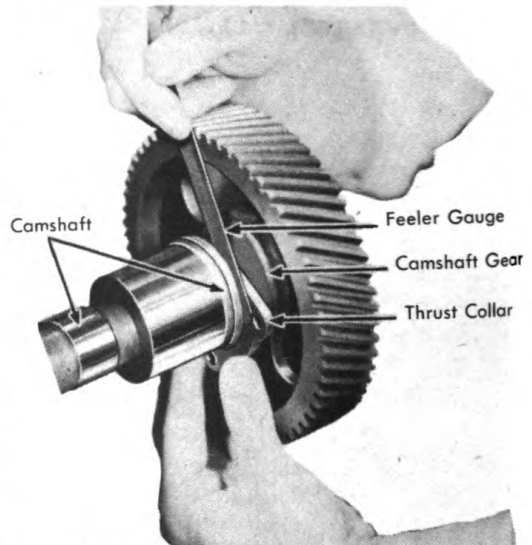

Figure 127. Checking Camshaft End Play.
22. Check the camshaft end play by measuring the space between the hub of the gear and the thrust collar as shown in Figure 127. If excessive, this can be corrected by replacing the gear or the plate or the camshaft. Usually the thrust plate replacement will overcome the excessive end play.
The camshaft is of open hearth steel, case hardened, and runs in four bronze bushings which are pressed into the crankcase. The desired camshaft bearing clearance is from .002" to .0035". The camshaft, being case hardened, will never have to be replaced because of too much clearance. The bushings will need replacement if the clearance is excessive. The instructions for the replacement are given under crankcase instructions in paragraph 10. The camshaft end play, which can be checked between the hub of the gear and the thrust collar as shown in Figure 127, should be between .003" and .009". If clearance is greater than .015", the thrust collar must be replaced.